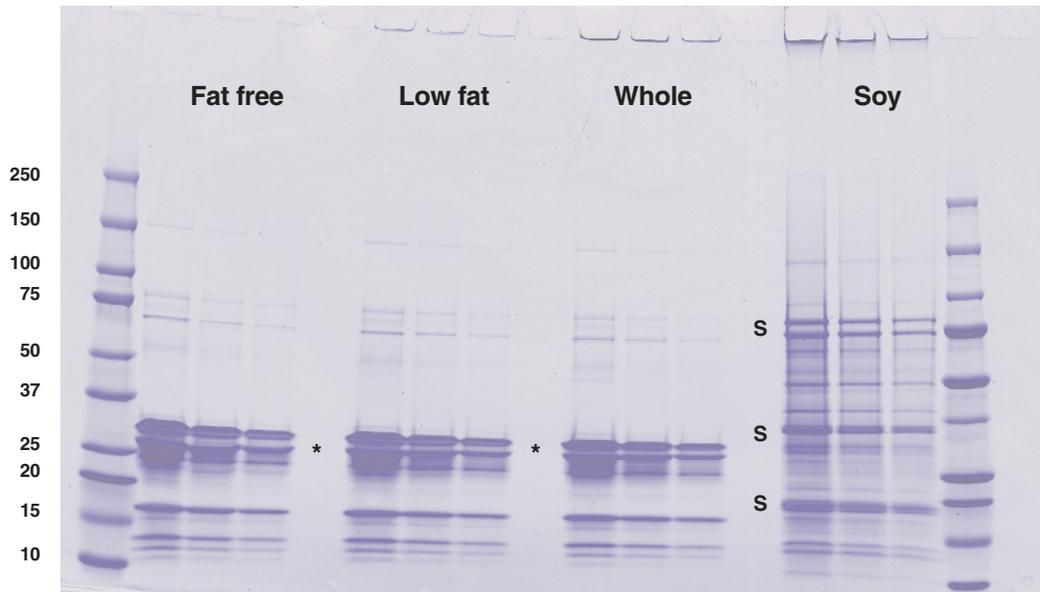

Fig. 7. Electrophoretic analysis of proteins from milk samples.
- After quantitating the protein content in milk, dilute the protein samples to 1 mg/ml in Laemmli buffer. Electrophorese 20  $\mu$ g, 10  $\mu$ g, and 5  $\mu$ g of total protein on a gel, and try to pick out the main protein bands in the different samples. In the gel in Figure 7, four different types of milk samples were analyzed: fat free, low fat, whole, and soy milk.
- The most abundant protein in milk samples from bovines is casein, which migrates at ~25 and 28 kD (denoted with an "\*" in Figure 7). Because casein is highly allergenic, an alternative milk source for those individuals allergic to casein is soy milk, which is derived from plant sources. Note that soy milk does not contain the prominent casein band, but instead contains several proteins unique to soy (denoted with "S").